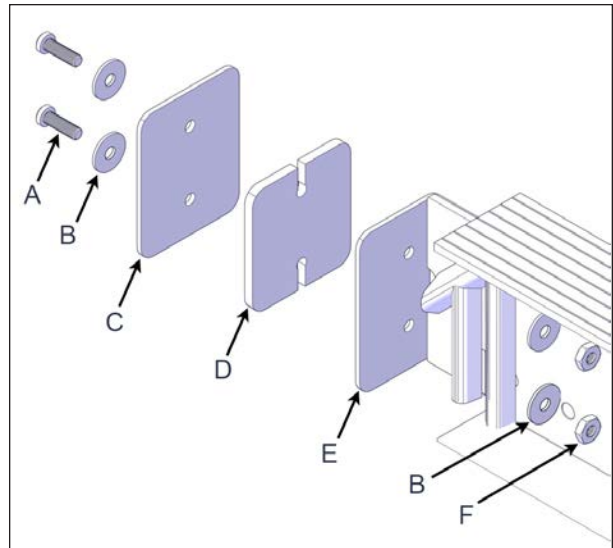

FIGURE 33: I-BEAM WITH THE SHORT I TO C CONNECTION PLATE INSTALLATION
1. Assemble the two I-beam short connection plates as shown in Figure 33.
2. Use #10-32 x 5/8" screws and #10-32 nuts. Insert the I to C spacer in between the I to C connection plate and the bracket. The screws and nuts can now be properly tightened see Figure 33.